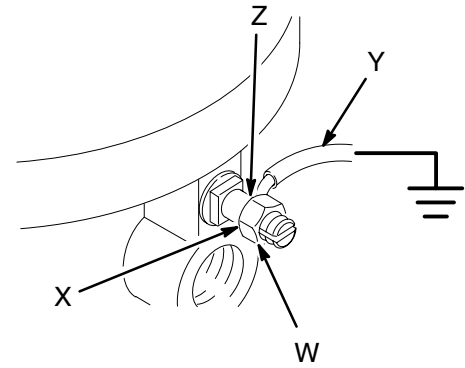

Fig. 1
1. *Pump*: use the ground wire and clamp. See Fig. 1. Loosen the grounding lug locknut (W) and washer (X). Insert one end of a 12 ga (1.5 mm2) minimum ground wire (Y) into the slot in lug (Z) and tighten the locknut securely. Connect the other end of the wire to a true earth ground. For a ground wire and clamp, order Part No. 237-569.
4. *Surge tank*: use a ground wire and clamp. See Fig. 1.